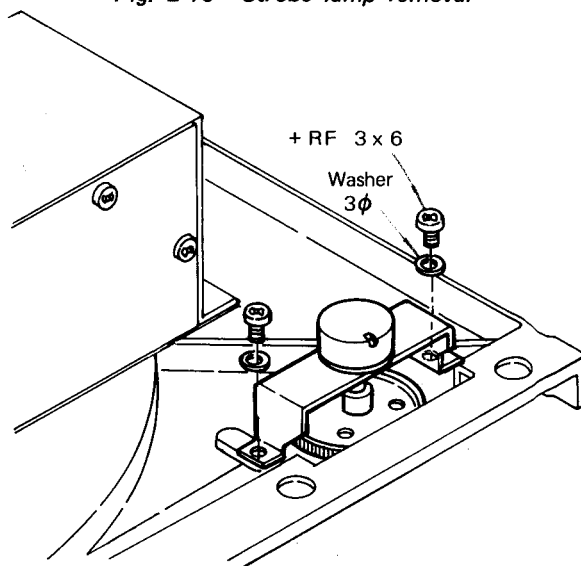

Fig. 2-11 Speed control replacement
1. Remove the two screws (+RF 3×6) that secure the SPEED control mounting bracket to the turntable base as shown in Fig. 2-11.